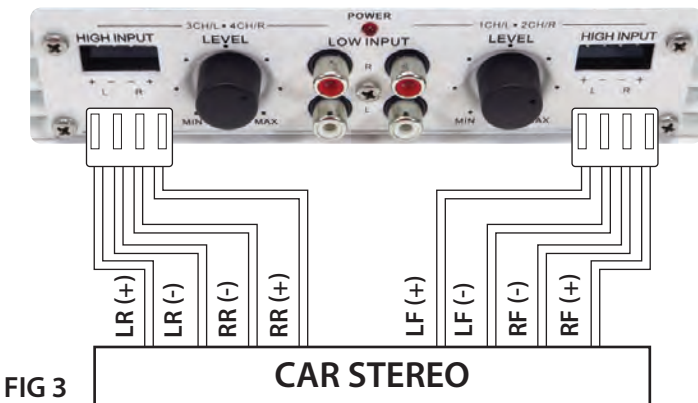
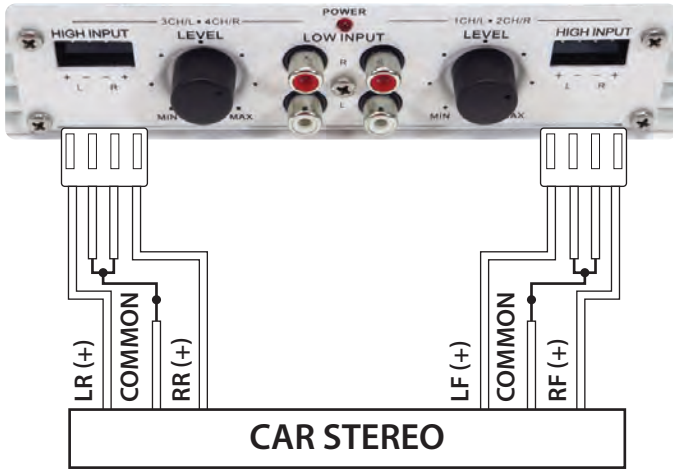
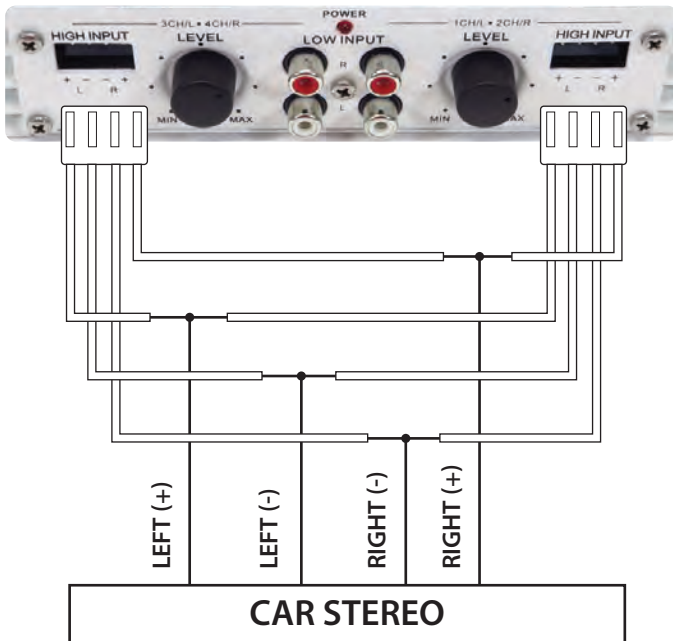
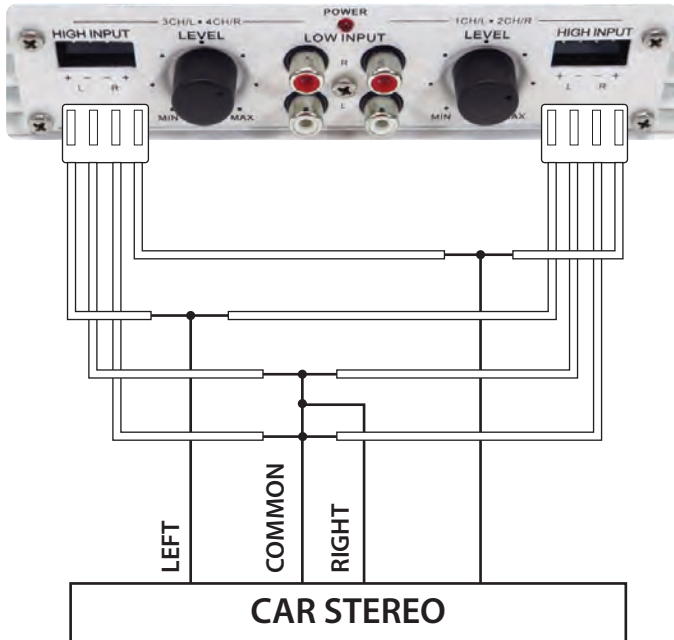

FIG 3
FIG 3A
FIG 4
FIG 4A
- 3. LOW IMPEDANCE INPUT (HIGH LEVEL INPUT):** This unit is provided with two terminal inputs (Front & Rear) for LOW impedance. If your car stereo has four speaker outputs (LF, RF, LR, RR). Wire input as per FIG. 3 & FIG 3A. If your car stereo has two speaker outputs, please wire as per FIG 4 & FIG 4A.